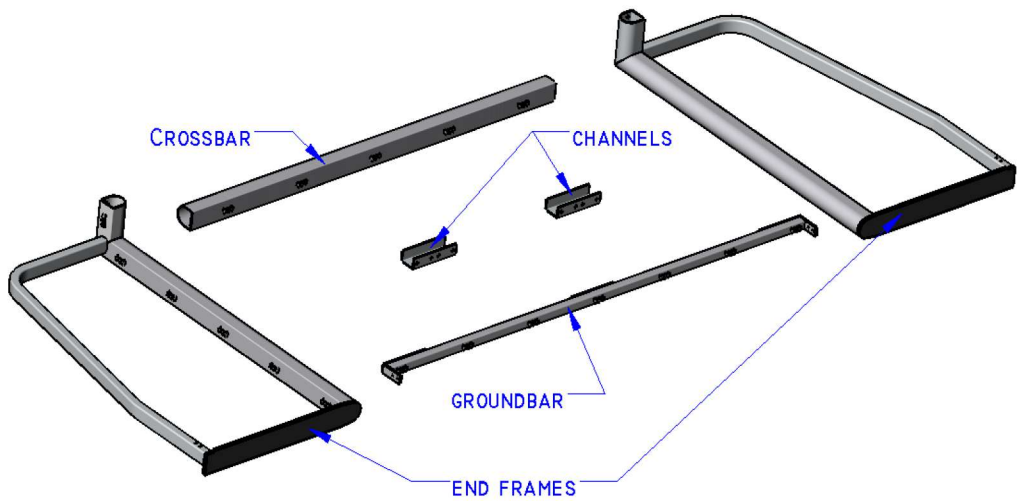

Figure 1
1. Begin by laying out all of the futsal goal components. Place the end frames far enough apart to fit the top crossbar between them with the net clips facing outwards. Place one channel at each connection. (Fig. 1).